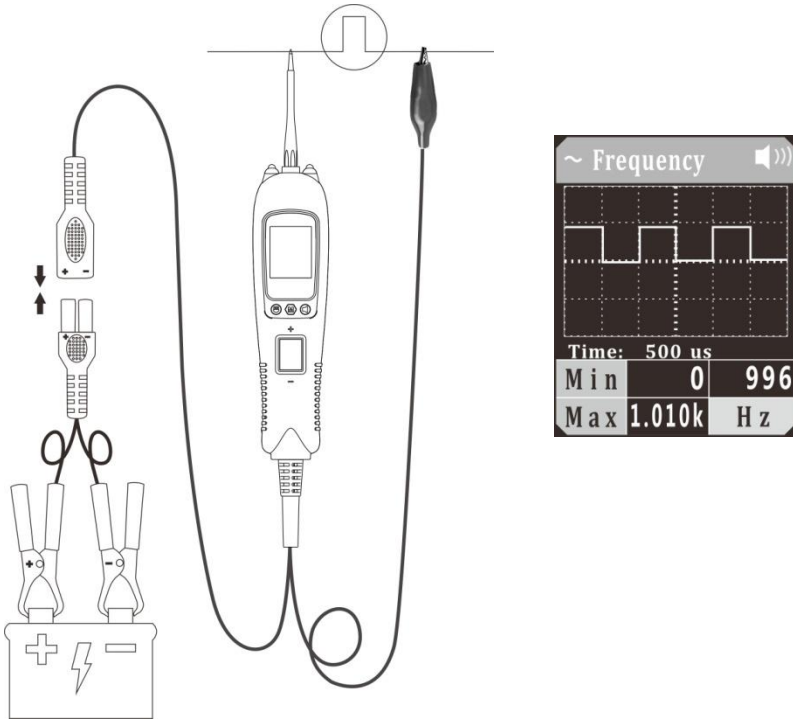

Figure 5
- 3) The auxiliary ground wire is connected to one end of the circuit under test, and the probe contacts the other end of the test circuit. The LCD display will show the minimum frequency, maximum frequency and waveform frequency (Figure 5), and display the signal waveform in real time. You can adjust the sampling frequency by pressing the Up/Down Button. In Figure 5, "time: 500us" is the time interval indicated by each large grid. This time reading will change with the sampling frequency.